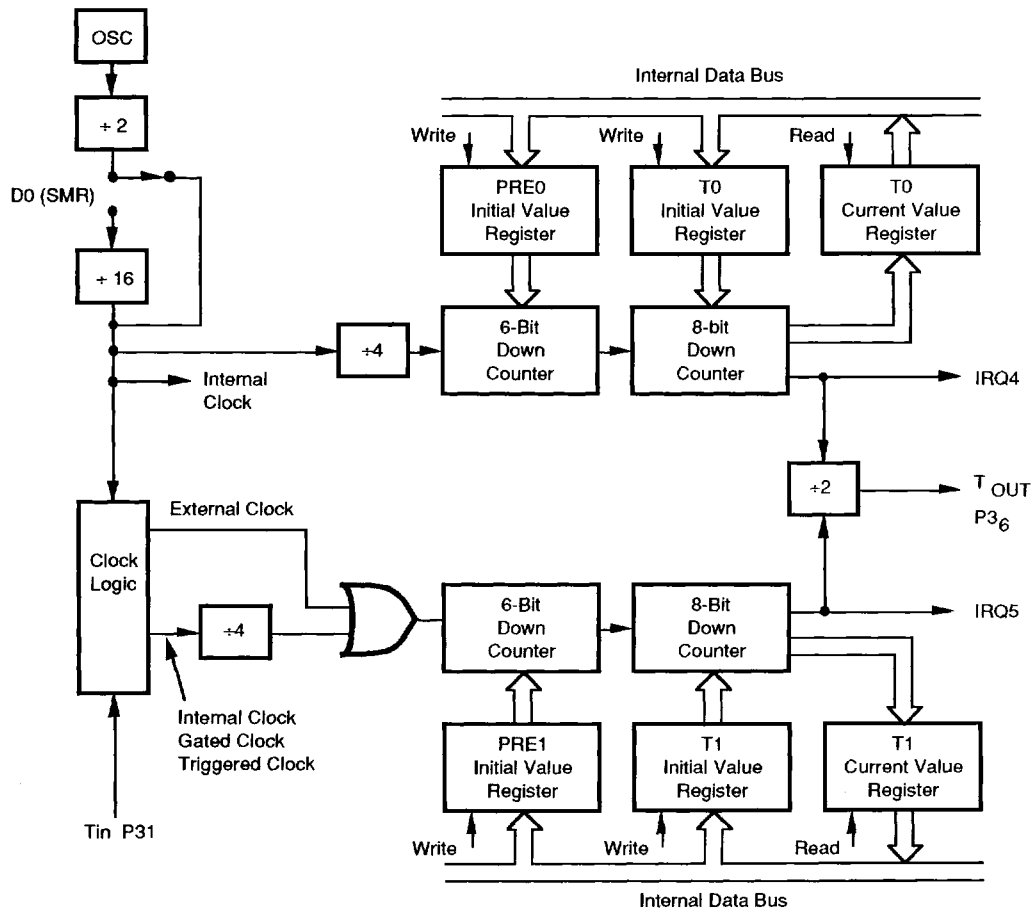

Figure 10. Counter/Timer Block Diagram
**Counter/Timers.** There are two 8-bit programmable counter/timers (T0-T1), each driven by its own 6-bit programmable prescaler. The T1 prescaler can be driven by internal or external clock sources; however, the T0 prescaler is driven by the internal clock only (Figure 10).